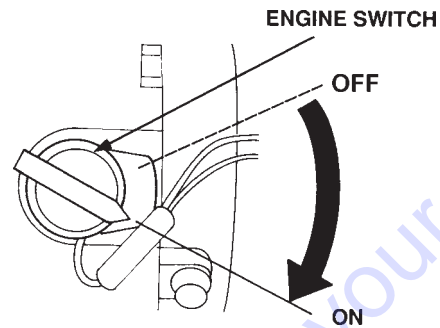

Figure 17. Engine ON/OFF Switch
4. Place the engine ON/OFF switch (Figure 17) in the ON position position.